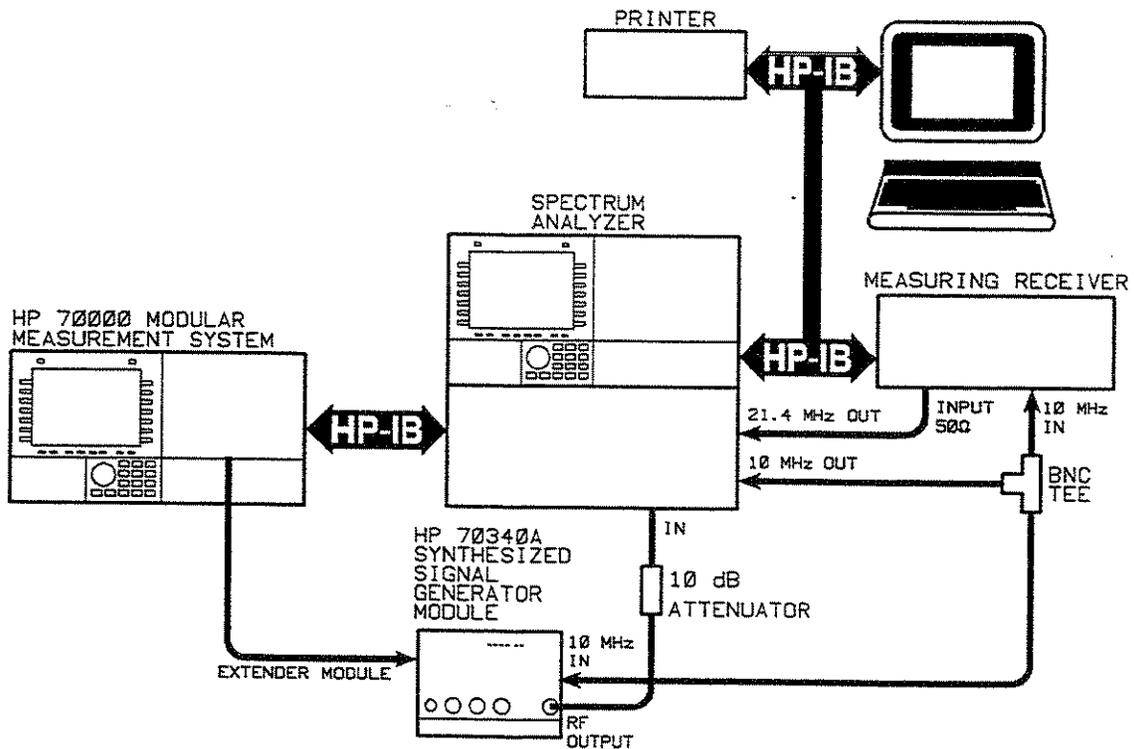

Figure 3-6. Attenuator Calibration Equipment Setup
1. Set up the equipment as shown in Figure 3-6.